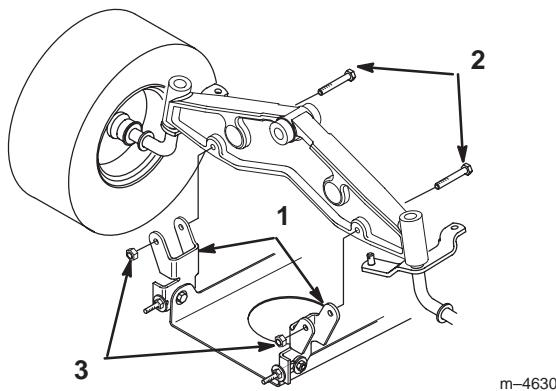

Figure 41
5. Install the mower pivot mount brackets to the front axle with bolts and locknuts (Fig. 41).